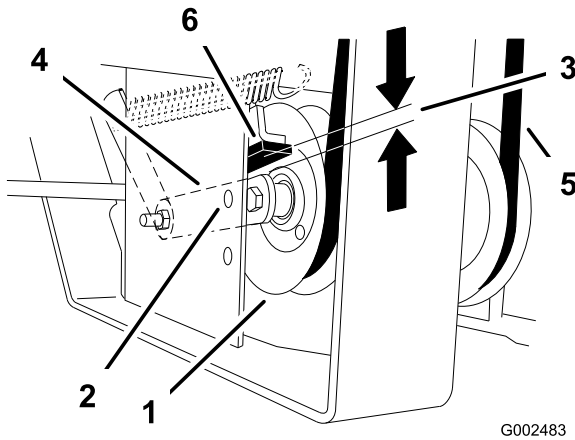

Figure 57
9. Check the distance from the rubber stop and the arm of the spring loaded idler pulley when the idler plate is tightened. It needs to be 0 to 1/4 inch (0 to 6 mm) from the rubber stop (Figure 57).